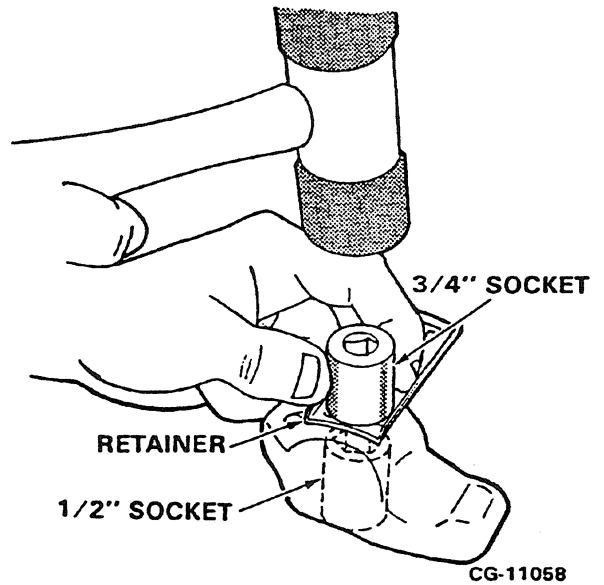

Figure 3.11. Valve Lever Reassembly
c. Place a 3/4 in. socket over the retainer as shown in Figure 3.11. Strike the socket squarely using a plastic hammer to install the retainer onto the post.